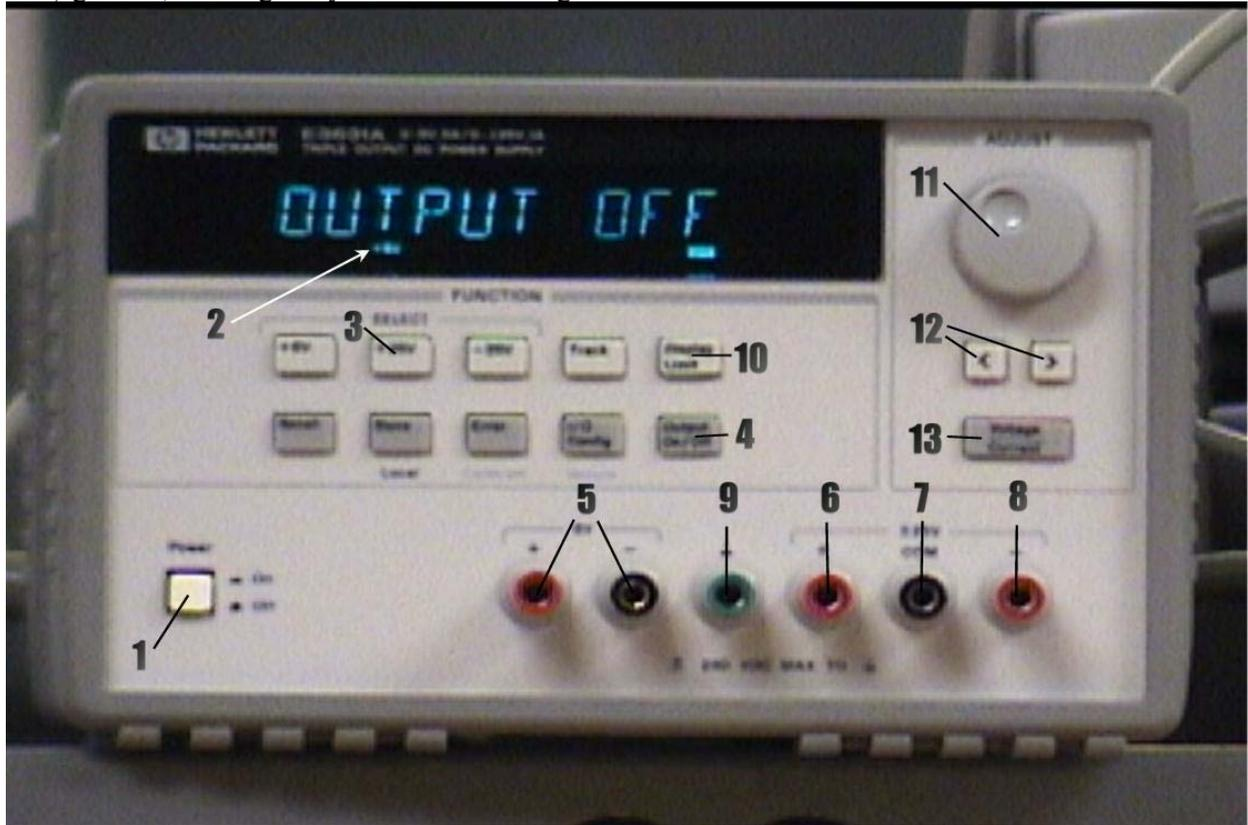
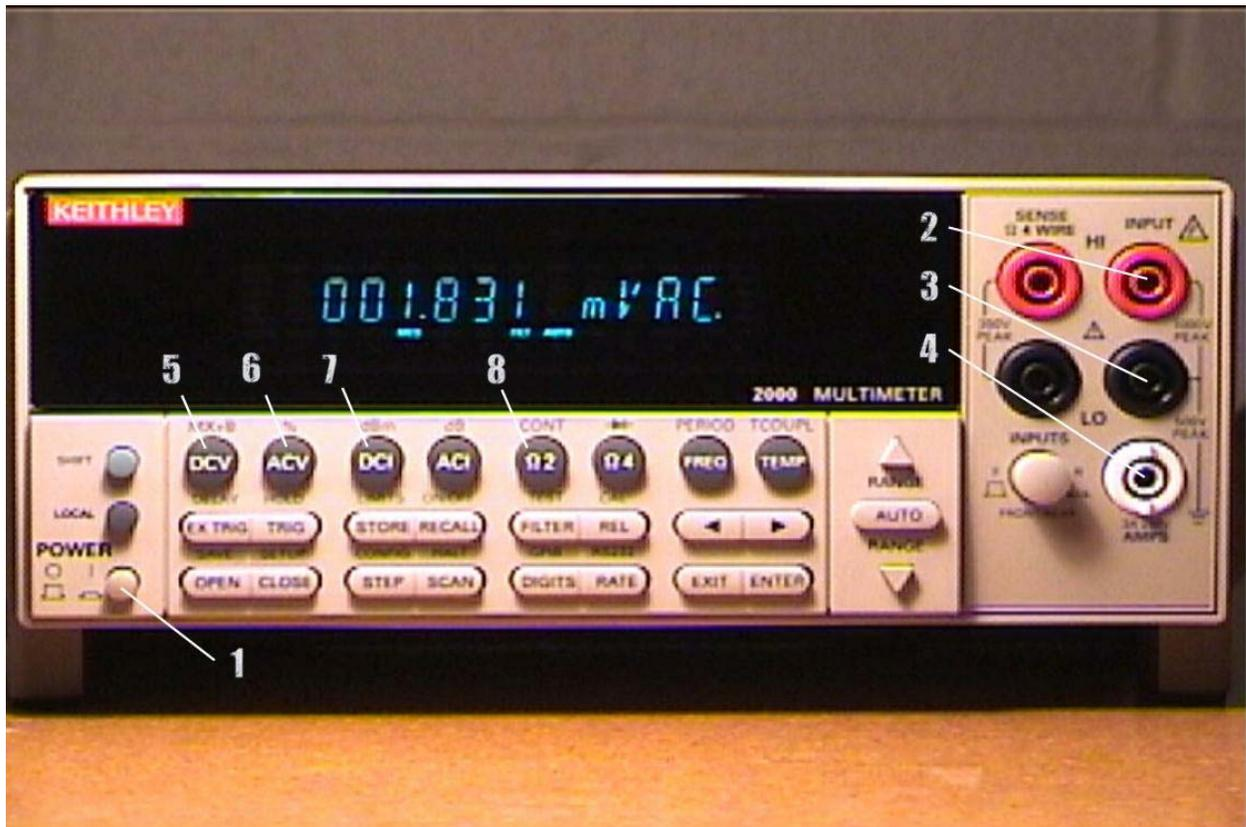
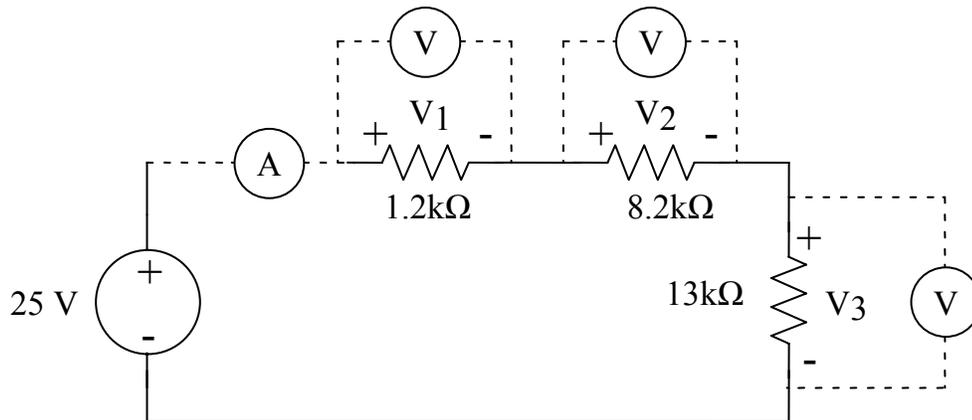

Figure 7. HP Triple Output DC Power Supply
Figure 9. Keithley Model 2000 Multimeter
Figure 10. Voltage divider circuit.
The front panel of the Triple Output DC Power Supply is shown in Figure 7. This power supply can produce output voltages in the range 0V to +6V, 0V to +25V, and 0V to -25V. The +25V and -25V supplies have a common terminal and all three supplies are isolated from earth (power line) ground, although any terminal can be grounded.
The front panel of the Keithley Model 2000 Multimeter (DMM) is shown in Figure 9. This is a very sophisticated instrument that can measure resistance by two methods, as well as DC and AC voltage and current, power level, frequency, continuity, and temperature. For each of these functions, the DMM automatically selects the most appropriate range for the specific measurement being performed. We will use only a few of its capabilities in this lab.
- 1) Obtain 1.2k Ω , 2.0k Ω , 8.2k Ω and 13k Ω resistors from the resistor drawers in the Glennan 308 Lab. Connect the alligator connectors to the banana plug leads at one end of each test wire and plug the other end of each test wire into the input (2) of the DMM. Put the DMM into resistance measurement mode by pressing the $\Omega 2$ button (8) on the DMM front panel. Measure each of the resistors that were obtained from the instrument room and record these measured values in Data Table 3.
- 2) Build the circuit shown in Figure 10. Start by inserting the three resistors into the breadboard so that they are connected in series as shown. Before connecting the power supply to your circuit, connect the DMM directly to the +25V output and, use the DMM to test the output voltage of 25V. A good practice is to always turn the power supply off using the Output on/off switch (4) [in Figure 7] before connecting the power supply to your circuit. Do so now.
- 3) In order to measure the total current of the voltage divider (Figure 10), it is necessary to connect the DMM as a current meter. To do this, connect the + output of the power supply to the **AMPS input** (4) of the DMM as shown in Figure 9. Connect the **LO input** (3) (this is immediately above the **AMPS input** (4)) to the positive power supply end of the 1.2k Ω resistor as shown in Figure 10. Connect the negative power supply end of your 13k Ω resistor to the COM terminal of the power supply. To select the DC current mode of the DMM, press the DCI button (7). The DMM display should indicate mADC.